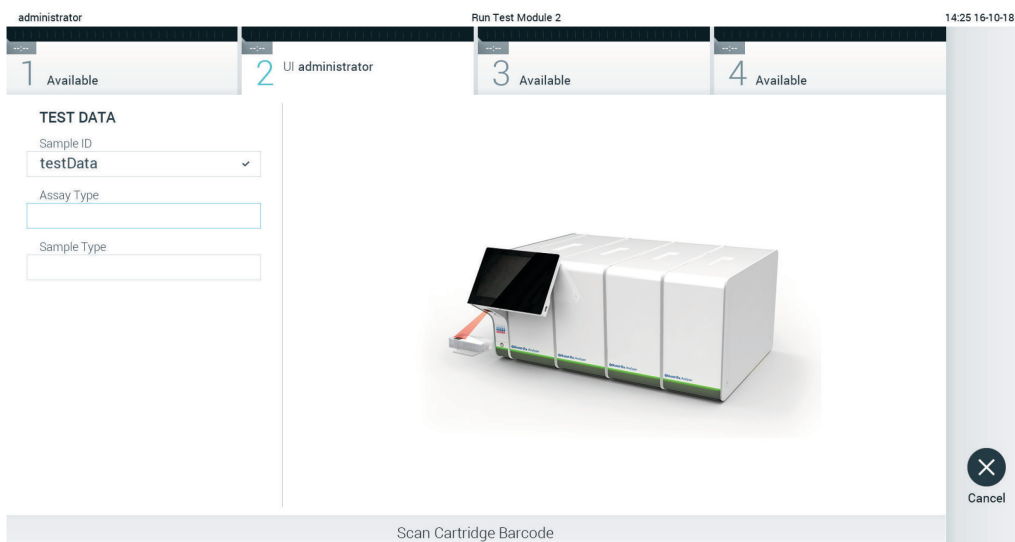

Figure 24. Scanning the QIAstat-Dx assay cartridge bar code.
- When prompted, scan the bar code of the QIAstat-Dx assay cartridge to be used. The QIAstat-Dx Analyzer 1.0 automatically recognizes the assay to be run, based on the QIAstat-Dx assay cartridge bar code (Figure 24).